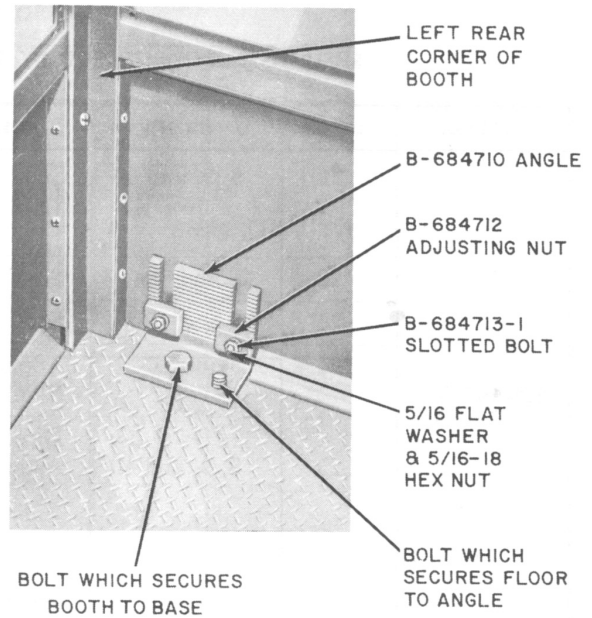

Fig. 7—Booth Anchoring Bracket
2.20 Four adjustable brackets (Fig. 7) are provided to permit leveling and anchoring.
- (a) If a KS-19580, List 28 foundation template is used, remove insert plugs from template and secure anchor brackets (Fig. 7) of booth to template using four 3/8-16 by 1-1/4 hex head bolts, four 3/8-inch lockwashers and four 3/8-inch flatwashers.
- (1) Mark the locations for four mounting holes.
- (2) Drill the four holes to accept masonry fasteners for 3/8-16 by 1-1/4 bolts.
- (4) Secure anchor brackets of booth to masonry fasteners using four 3/8-16 by 1-1/4 hex head bolts, four 3/8-inch lockwashers, and four 3/8-inch flatwashers.
(d) Adjust the anchor brackets (Fig. 7) if necessary, and ensure that the booth is level.